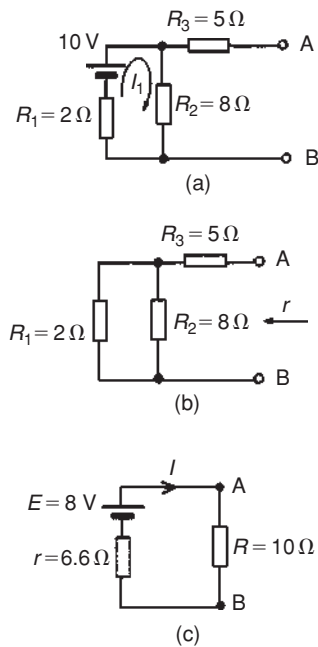

Figure 13.38
- The 10Ω resistance is removed from the circuit as shown in Fig. 13.38(a)
- (iii) Removing the source of e.m.f. gives the circuit of Fig. 13.38(b). Resistance,
- (iv) The equivalent Thévenin's circuit is shown in Fig. 13.38(c)